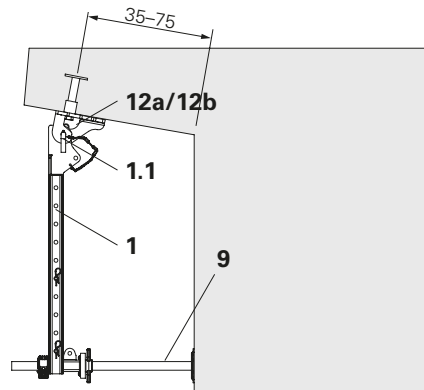

Fig. B.1.08
1. Insert Adj. Base Plate UJB 38 mm-80/55 (9) into Bracket Unit VGK (1) and vertically align.
2. Secure the Adj. Base Plate UJB 38 mm-80/55 (9) against falling out and unintentional twisting, see Section “Intermediate area on cantilevers 35 – 75 cm” on page 14. (Fig. B.1.08)